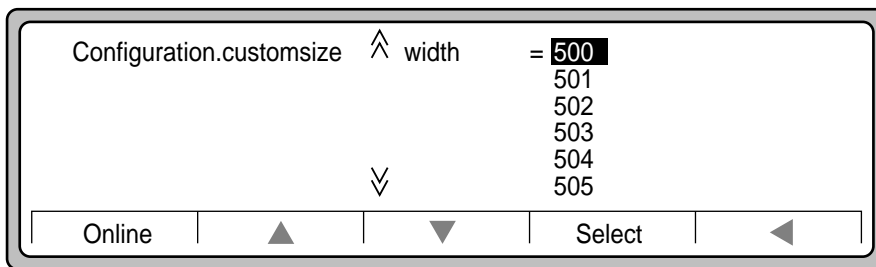

Figure 3-23 Width selection for custom paper size
15. Press ▲ or ▼ until your number is highlighted (our example is 500, as shown in Figure 3-23).